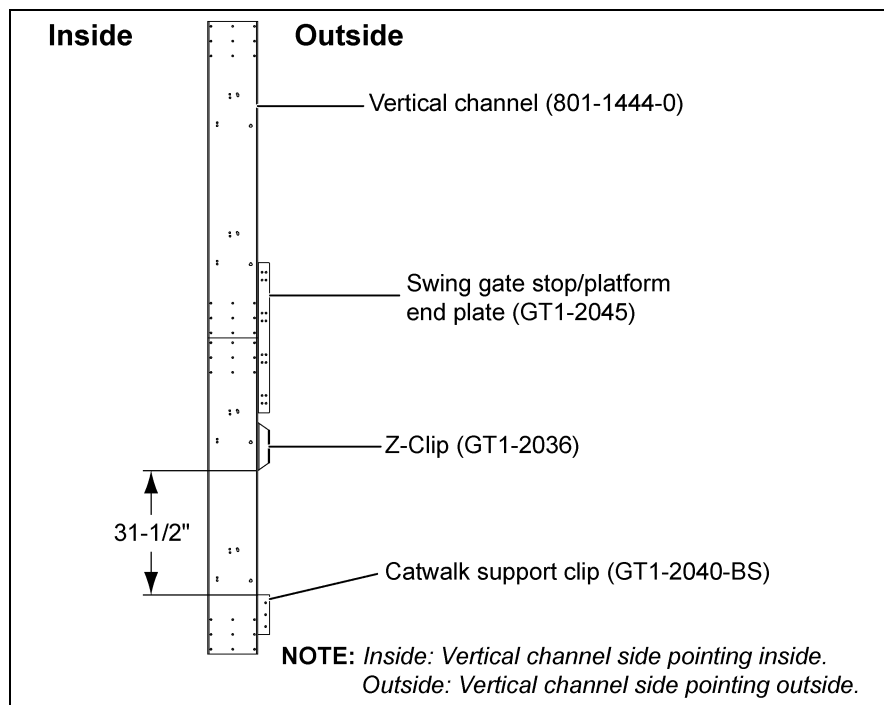
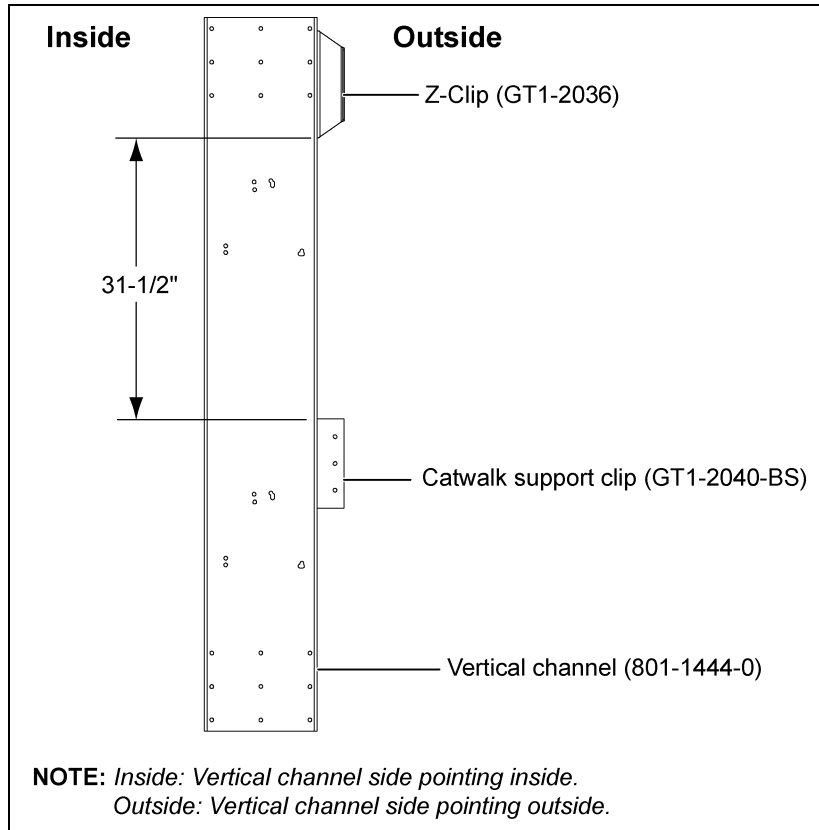

Figure 6H
Figure 6J
2. The distance between the Z-clip and support clip for 17' offset and roof hatch platform is 31-1/2". (See Figure 6H below and Figure 6J on Page 52.)